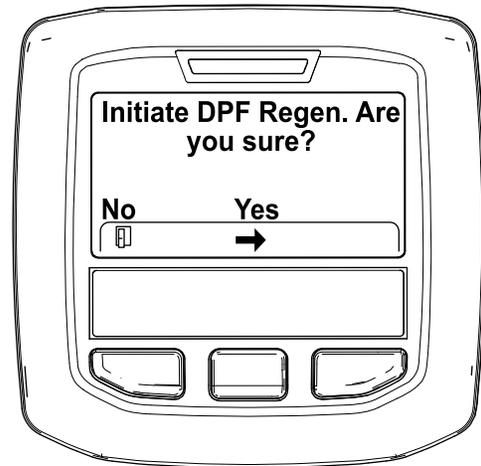

Figure 43
4. When the "Initiate DPF Regen. Are you sure?" message displays, press the center button (Figure 43).